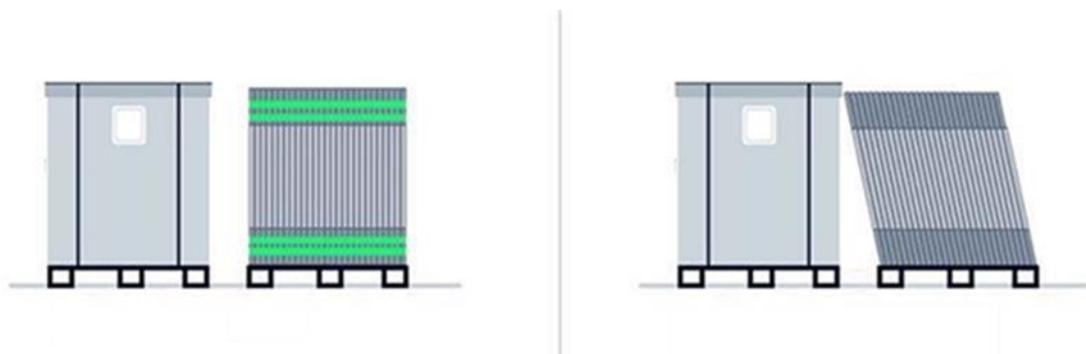

Figure 17: Tilt of the modules leaning on the box for support
- d) Gently push the PV modules so that they can safely lean against the box placed beside for support during step 4 (Figure 17).